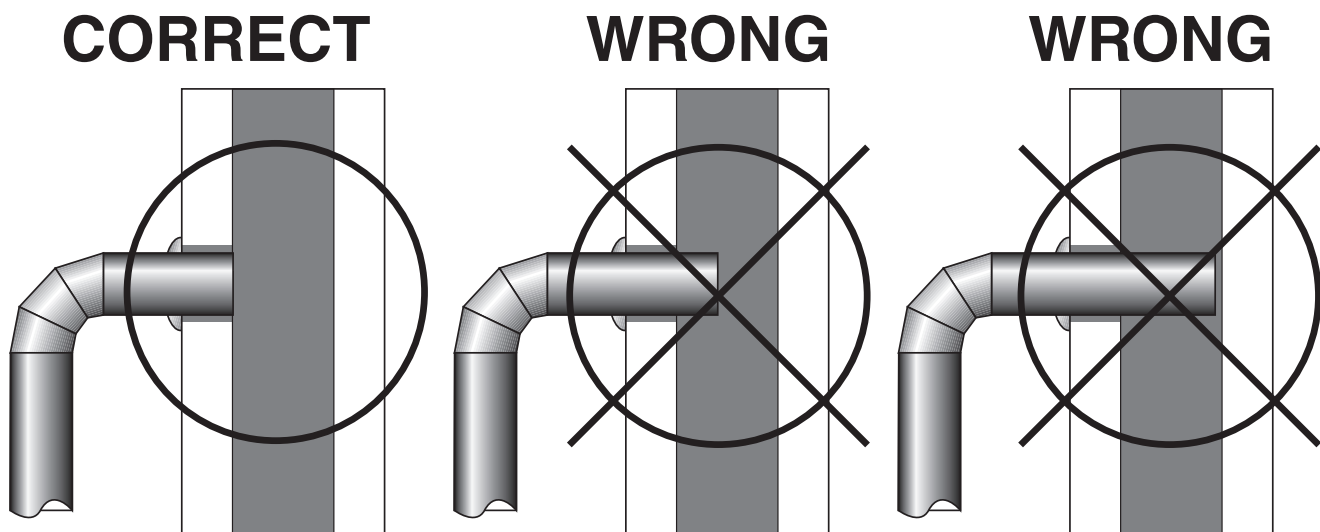

Figure 14 – Stovepipe/Flue Connections
1. The crimped end of the stovepipe fits inside the stove flue collar. Secure with a minimum of three (3) equally spaced sheet metal screws. The first section of connector pipe must be single walled to properly attach to the stove collar. Install additional pipe and elbow with the crimped end towards the stove. This will allow any condensation in the flue to run back into the firebox.
4. The pipe cannot extend into the chimney flue (figure 14).
6. It is recommended that no more than two (2) 90° bends be used in the stovepipe installation. The use of more than two 90° bends may decrease the amount of draw and possibly cause smoke spillage. Where possible, use only corrugated (non adjustable) elbows. These provide a better seal.
2. Install a fire clay (5/8”/16mm minimum thickness) thimble. Make sure the thimble is flush with the inner surface of the chimney liner and does not protrude into the flue (see figure 14 on page 10).
4. Install the stovepipe into the thimble as far as possible without extending past the flue lining (see figures 14 & 15 on pages 10 & 11).